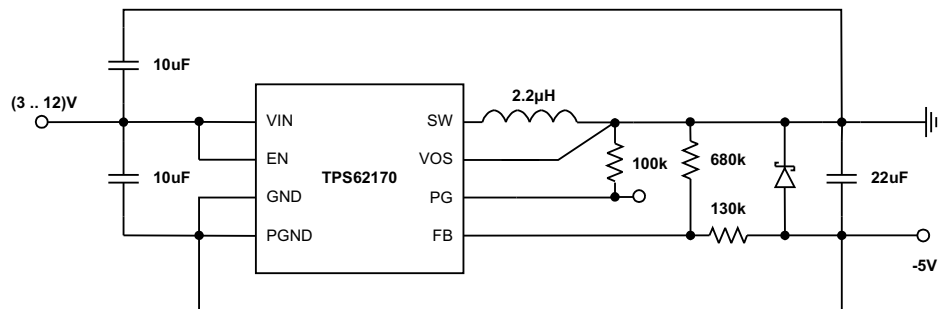

Figure 41. -5V Inverting Power Supply
The TPS62170 can be used as inverting power supply by rearranging external circuitry as shown in Figure 41. As the former GND node now represents a voltage level below system ground, the voltage difference between  $V_{IN}$  and  $V_{OUT}$  has to be limited for operation to the maximum supply voltage of 17V (see Equation 13).
- Added diode to Figure 41 ..... 24